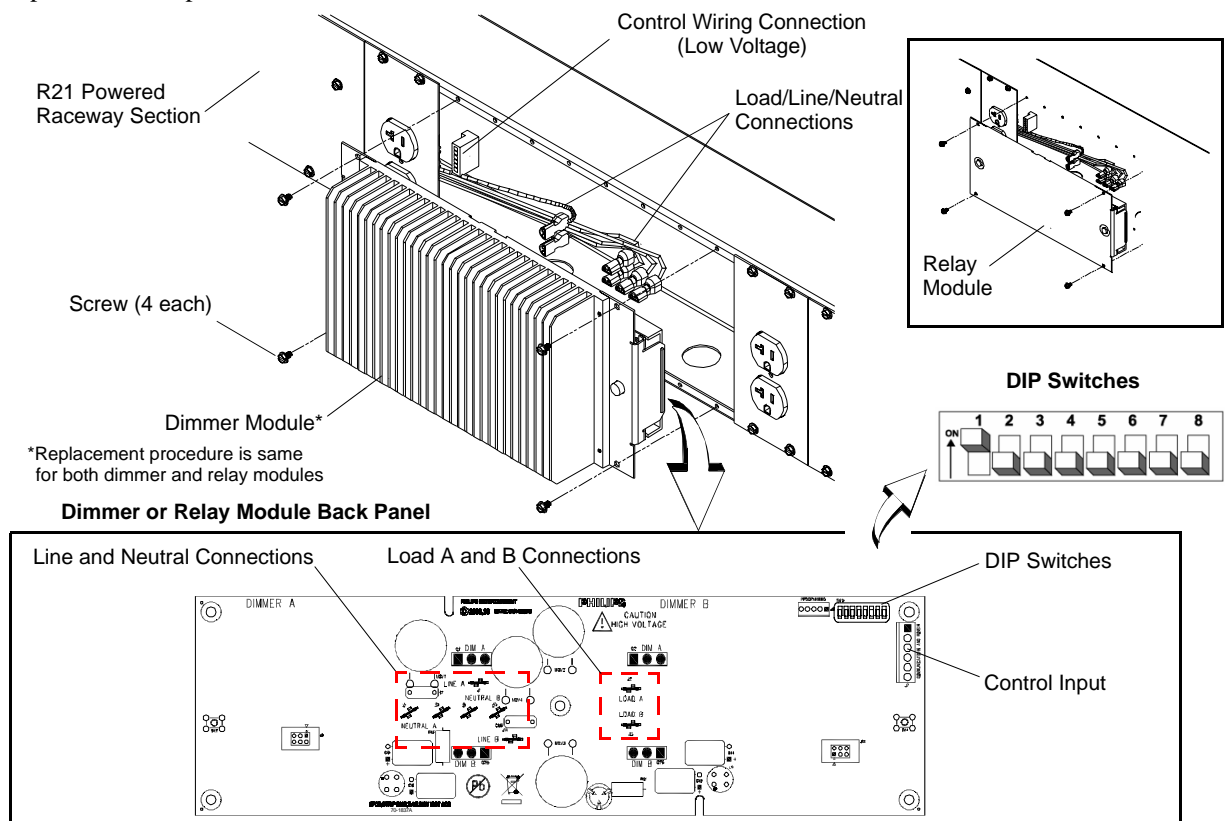

Figure 15: Removing and Replacing a Dimmer or Relay Module
Note: **Figure 15** shows a dimmer module; replacement procedure described herein is same for both dimmer and relay modules.
- Step 2. At dimmer or relay module, loosen four screws and partially remove from system (**Figure 15**).